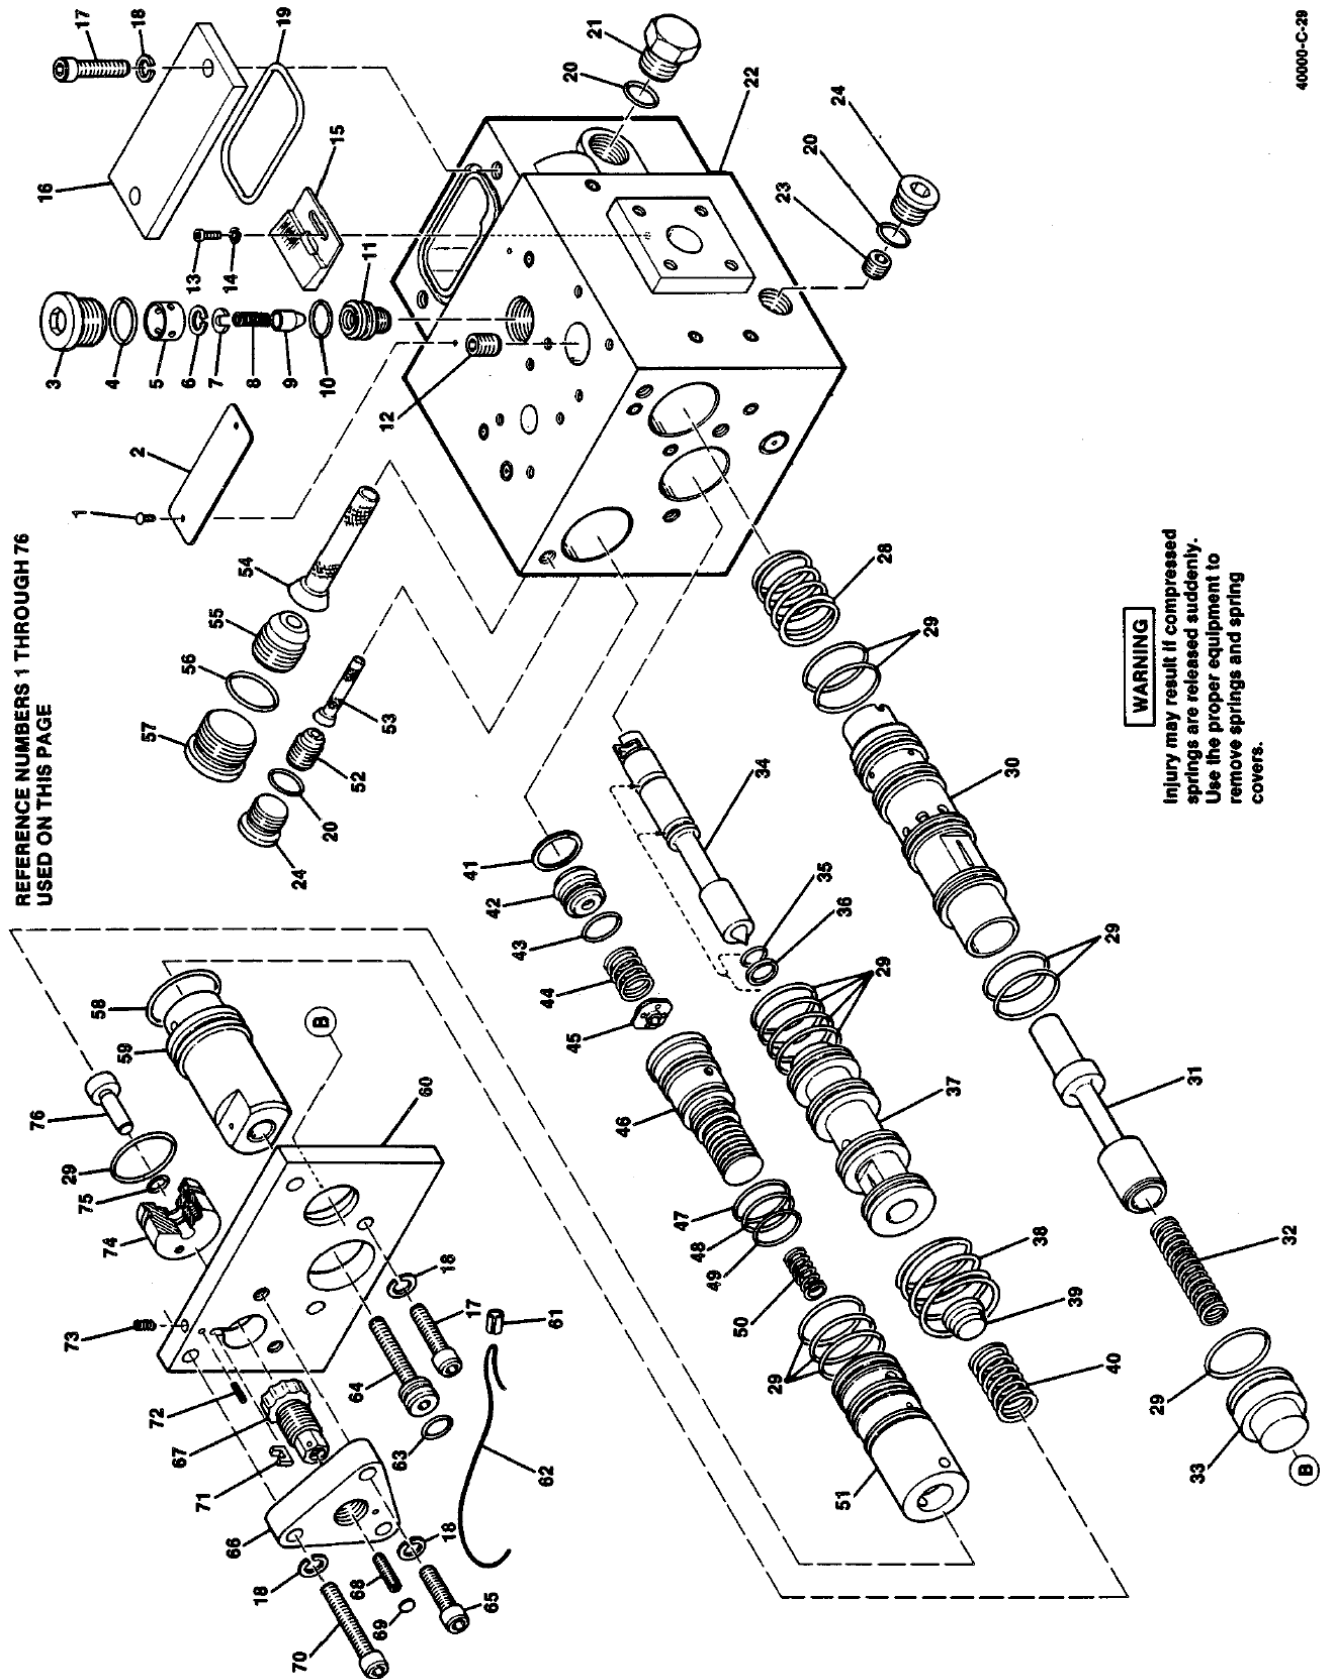

Figure 6-1. Parts for the 3145 Liquid Fuel Valve
- Figure 6-1 illustrates parts for the 3145 Liquid Fuel Valve.